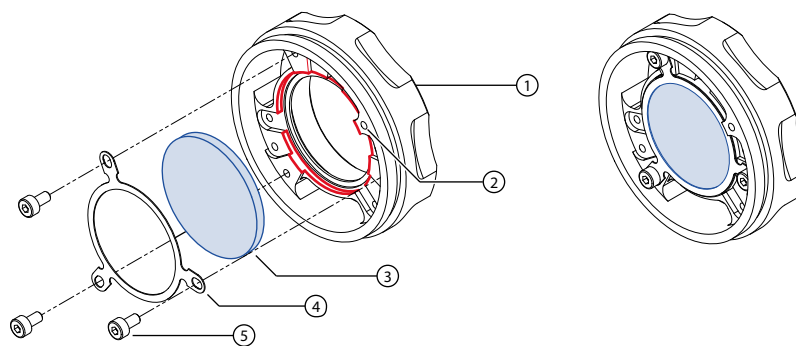

Figure 72: Changing the filter in the C-Mount adapter
To change the filter of the C-Mount lens adapter, follow the instructions outlined in Figure 72.
- See Figure 72 on page 255 (blue = filter, red = filter recess).